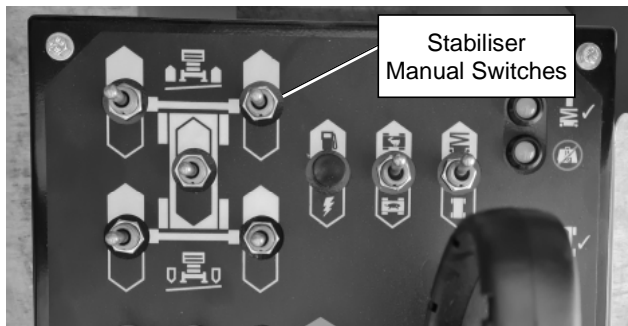

Figure 8.5 – Stabiliser Manual Switches
- Pull and hold the stabiliser switches backward one at a time, until all four stabiliser pads contact the ground (see figure 8.5).